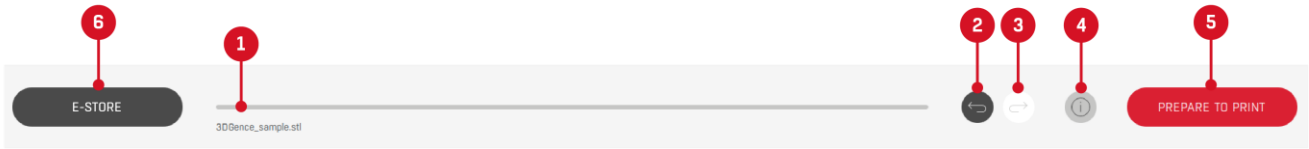

Fig. 20 Button bar
1. Status bar (Fig. 20) – displays the software operation statuses.